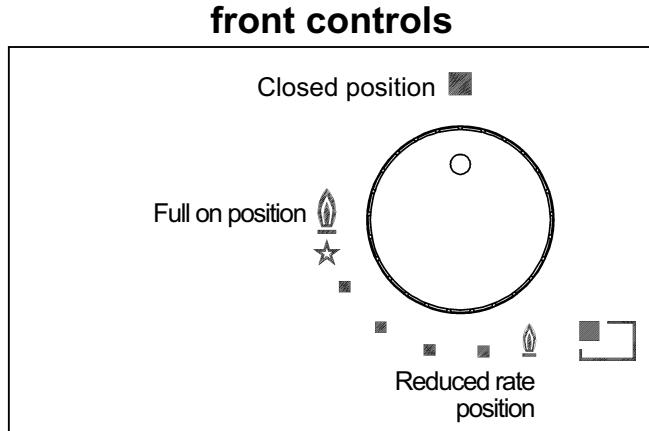

FIG. 1
The knobs of burners equipped with flame failure device must be turned in an anticlockwise direction until they reach the full on position (large flame fig. 1 - 1/A) and come to a stop. Now depress the knob in question and repeat the previously indicated operations.
- When the pan comes to the boil, set the knob to the reduced rate position (small flame fig. 1 - 1/A).